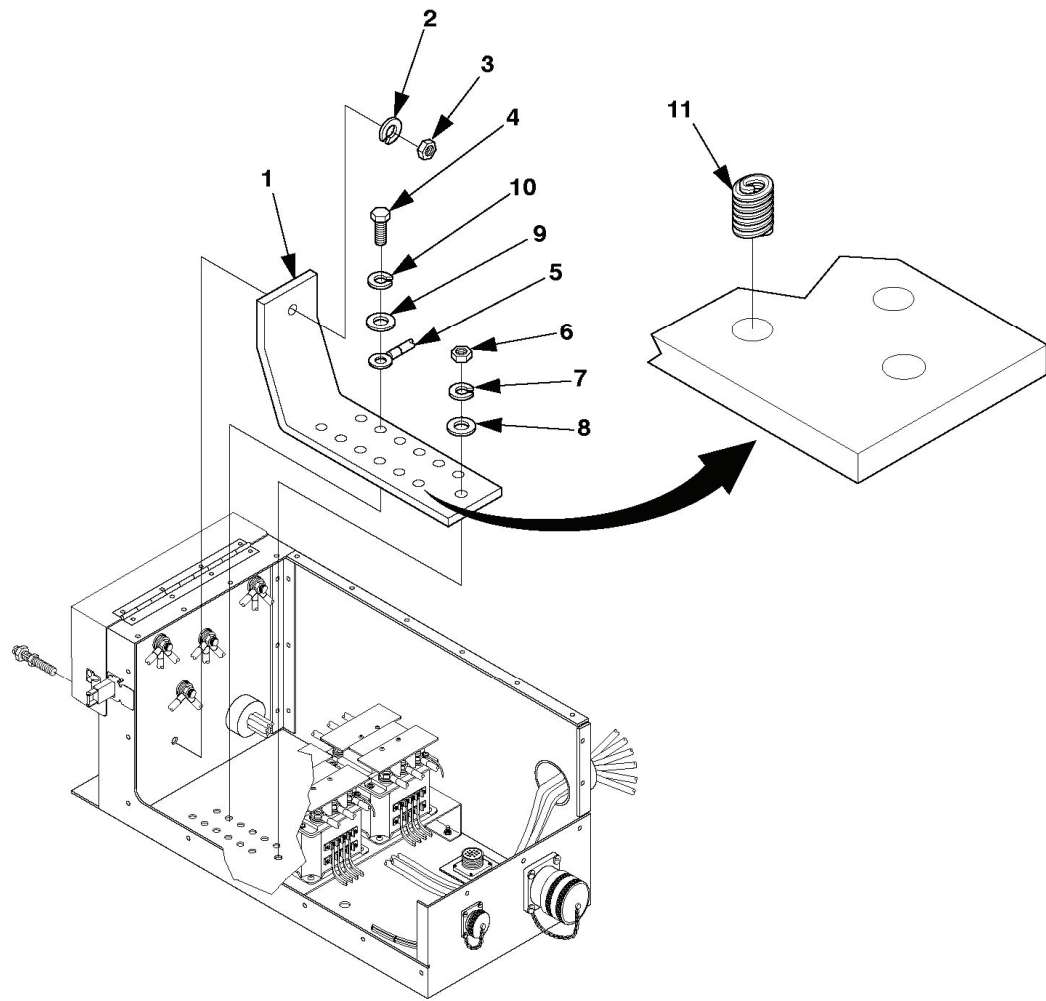

Figure 5-13. Bus Bar Maintenance (A Model).
4. Remove cap screws (4, figure 5-13), lock washers (10), flat washers (9), and electrical leads (5) from bus bar (1). Discard lock washers (10).
5. Remove nut (3) and lock washer (2).
6. Remove nut (6), lock washer (7), and flat washer (8). Discard lock washer (7).
7. Remove bus bar (1).
1. Position bus bar (1, figure 5-13) in place.
2. Install flat washer (8), new lock washer (7), and nut (6).
3. Install lock washer (2) and nut (3).
4. Install electrical leads (5), flat washers (9), new lock washers (10), and cap screws (4).